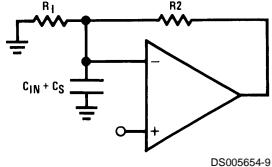

FIGURE 2.
**Input Capacitance:** The input capacitance,  $C_{IN}$ , of the LM146 is approximately 2 pF; any stray capacitance,  $C_S$ , (due to external circuit layout) will add to  $C_{IN}$ . When resistive or active feedback is applied, an additional pole is added to the open loop frequency response of the device. For instance with resistive feedback (Figure 2), this pole occurs at  $\frac{1}{2\pi}(R_1||R_2)(C_{IN} + C_S)$ . Make sure that this pole occurs at least 2 octaves beyond the expected -3 dB frequency corner of the closed loop gain of the amplifier; if not, place a lead capacitor in the feedback such that the time constant of this capacitor and the resistance it parallels is equal to the  $R_i(C_S + C_{IN})$ , where  $R_i$  is the input resistance of the circuit.